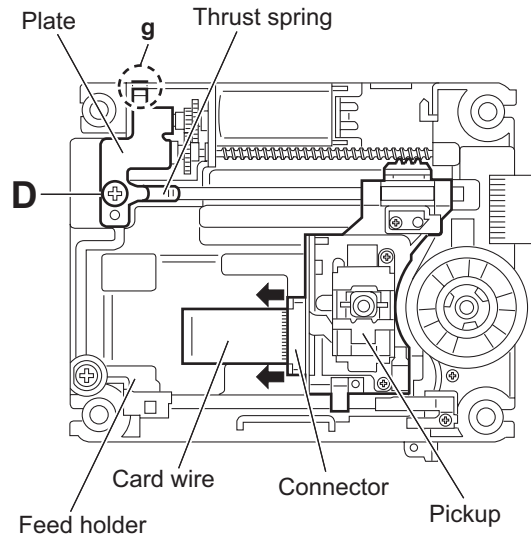

Fig.7
- (2) Release the lock of the connector on the pickup in the direction of the arrow and disconnect the card wire. (See Fig.7.)
- (3) Remove the screw **D** attaching the plate and thrust spring. (See Fig.7.)
- (4) Remove the engagement section **g** attaching the plate to the feed holder and remove the plate with the thrust spring. (See Fig.7.)
- (3) Attach the plate and thrust spring. (See Fig.7.)
(See Figs.7,11 and 12)
- (1) From the top side of the traverse mechanism assembly, remove the screw **D** attaching the plate and thrust spring. (See Fig.7.)
- (2) Remove the engagement section **g** attaching the plate to the feed holder and remove the plate with the thrust spring. (See Fig.7.)